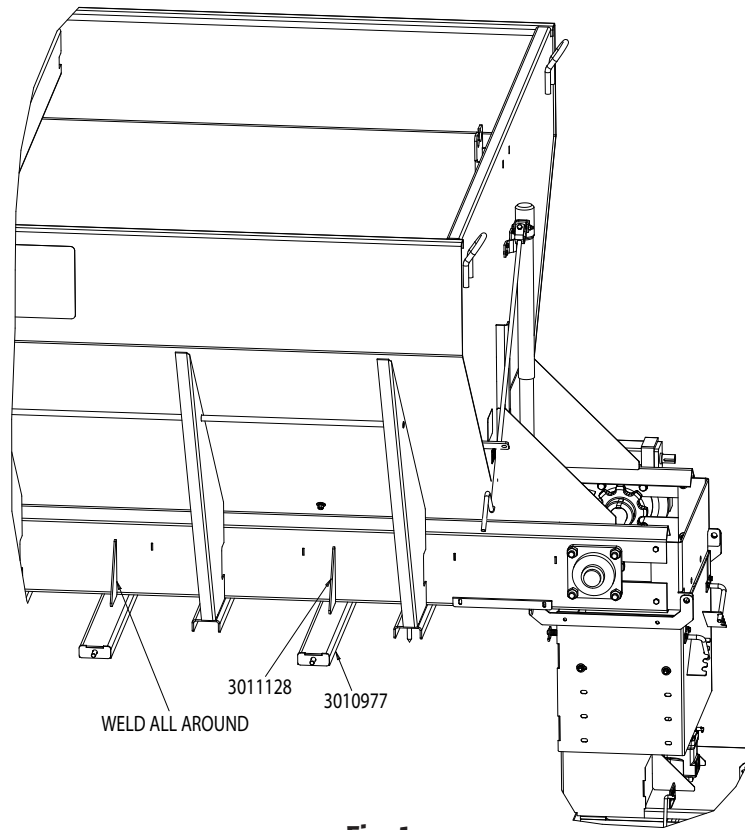

Fig. 1.
3. Position reservoir bracket (#3010977), gussets (#3011128) and bracket tie downs (#3011124) as shown in fig.2. Weld all parts in place as shown in fig.2 and fig.1 on both sides of spreader.